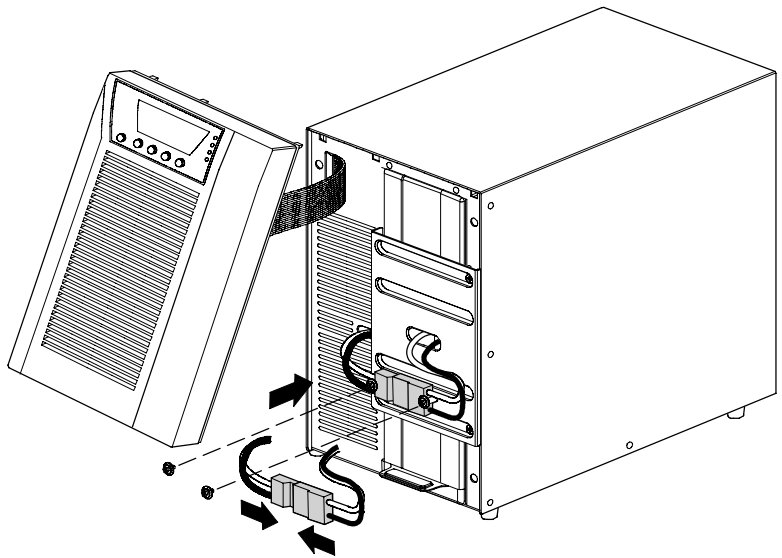

Figure 15. Connecting the UPS Internal Batteries
2. Connect the internal battery connector (see Figure 15).
3. Remove the two screws from the screw mounts and retain (see Figure 15).